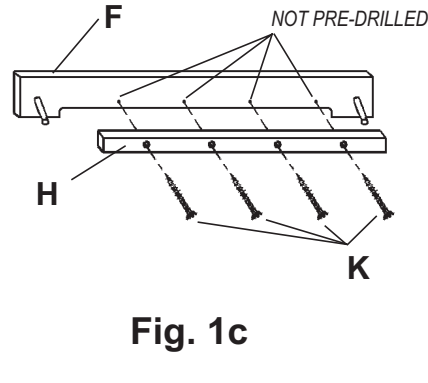

Fig. 1c
Using four #8 x 1-1/4" Black Screws (K), attach the other Bottom Support (H) to the inside face of the Base (F) centered between the pins and flush with the bottom edge of the cut out. See Figure 1c.